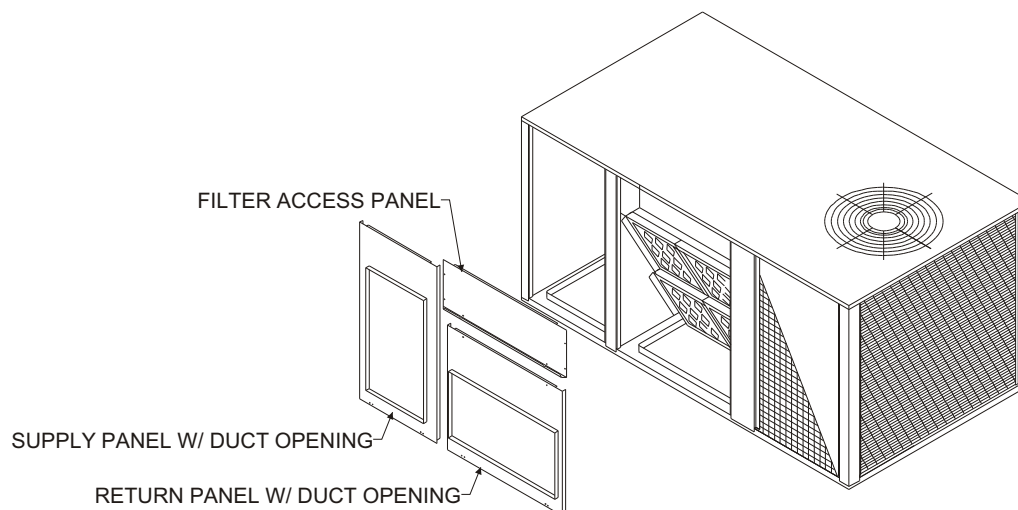

Figure 2
8. Install return panel with duct opening to unit horizontal return air opening of unit. Align the bottom of the panel with the unit base pan. Using holes in the bottom of panel, secure with screws from Step 1. **See Figure 2.**